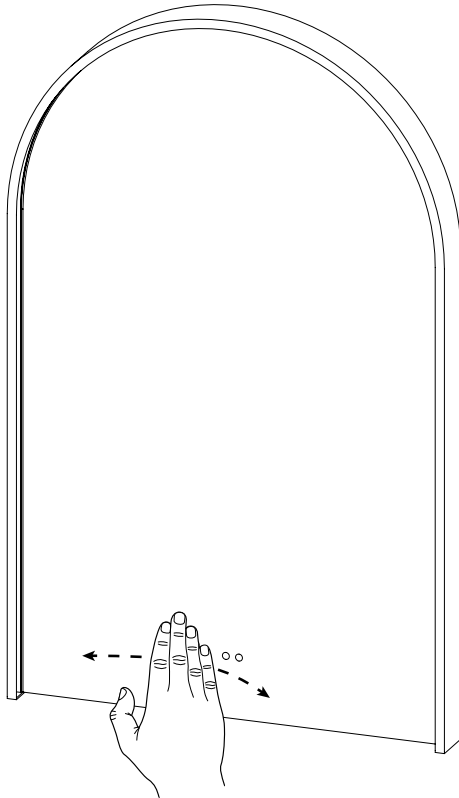

Fig 3. - Operation
1. Wave hand past the sensor switch located on the face of the mirror, *see Fig. 3*.